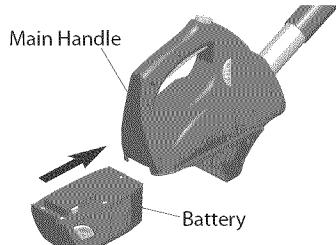

Figure 26 - Assembled Battery onto Main Handle
7. Slide battery onto main handle until release buttons "snap" together (see Figure 26).